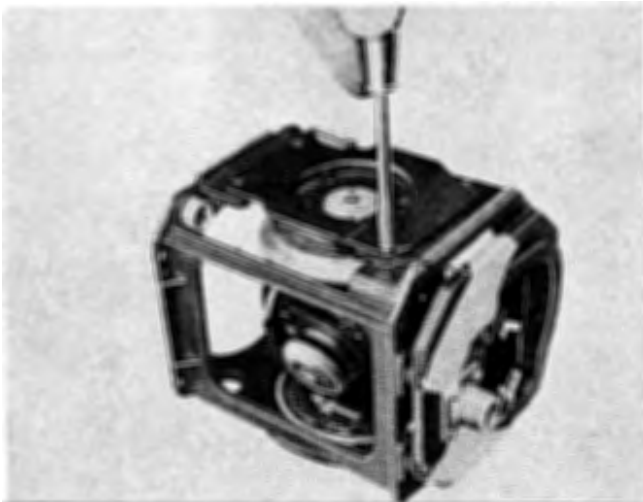

Figure 15
(7) Turn the instrument upside down, take out the four fillister-head machine screws and lock washers, and remove the bottom bracket assembly. (See figure 15.) Using bearing puller T100361, remove the bottom bracket bearing and place it in a dustproof container until ready for cleaning and inspection.
On some instruments, a clip for holding the bottom contact lead is attached to the bottom bracket by the screw shown being removed in figure 15.
(7) Remove the four flathead machine screws holding the dial assembly to the chassis, and withdraw the dial assembly.
(8) Remove the two fillister-head machine screws holding the contact assembly to the top bracket assembly.
(9) Remove the clip holding the contact assembly leads to the top bracket assembly. Leaving the clip in place on the lead, bend the lead back and tape the contact assembly to the back plate to protect it from damage.
(10) Remove the screws holding the bezel glass heater lead clips to the top bracket assembly, and tape the leads to the back plate of the chassis.
(11) Remove the two fillister-head machine screws holding the contact assembly to the bottom bracket assembly, and the single screw holding the contact lead clip to the bottom bracket assembly. Tape the contact assembly to the back plate to protect it from damage.
(12) With the instrument upside down, take out the remaining three fillister-head screws and lock washers, and remove the bottom bracket assembly. (See figure 15.) Using bearing puller T100361, remove the bottom bracket bearing and place it in a dustproof container until ready for cleaning and inspection.
(13) Grasp the gear on the vertical ring and carefully withdraw the vertical gimbal and gyro assembly from the chassis.